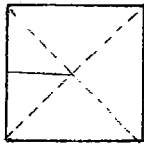

FIG 1
a) Find the center of the board on both sides and mark it. Draw a single line from the center point to the edge, but do not go all the way across the board. Do this on both sides. Make sure that these lay-out lines both end up on the same edge. SEE FIG 1